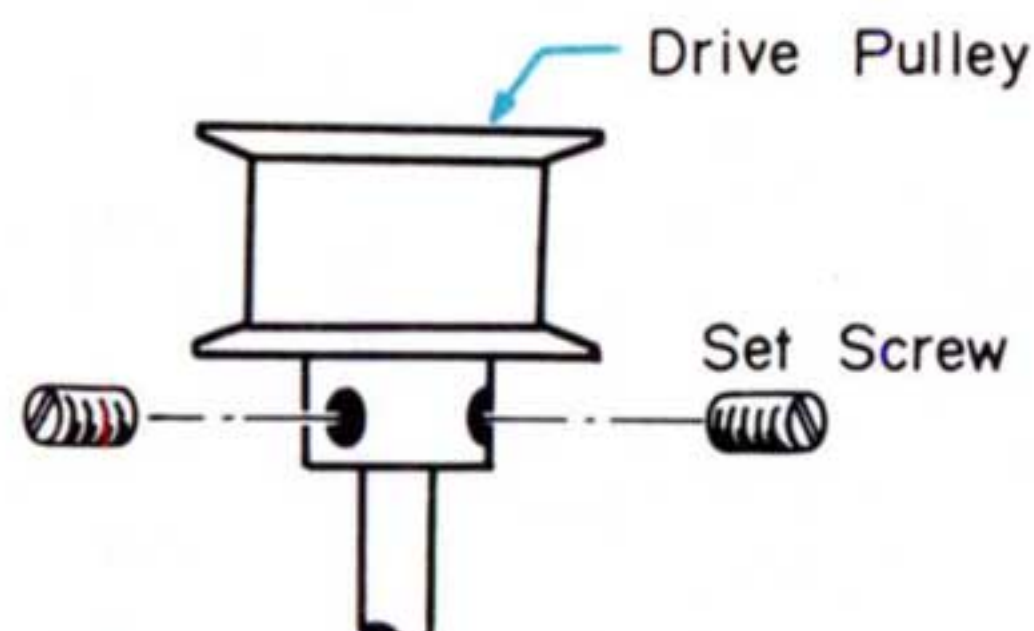

Fig. 2-11 Removal of Drive Pulley
3. Remove the drive pulley from the motor shaft by loosening the two set screws as shown in Fig. 2-11.